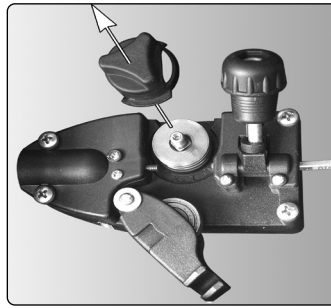

fig.9
7.3.1. There are two grooves on the feed roller, 0.6mm and 0.9mm. Always have the groove that is being used on the outside of the roller (nearest to you). To turn the feed roller first loosen the wire tension knob and move it into its up position (see fig.8-1) then move the tensioning roller assembly to its down position (see fig.8-2). Take hold of the triangular knob on the roller retainer and rotate it 90° anticlockwise to release it as shown in fig.8.3. Now pull the roller retainer off the drive spindle to reveal the roller as shown in fig.9.